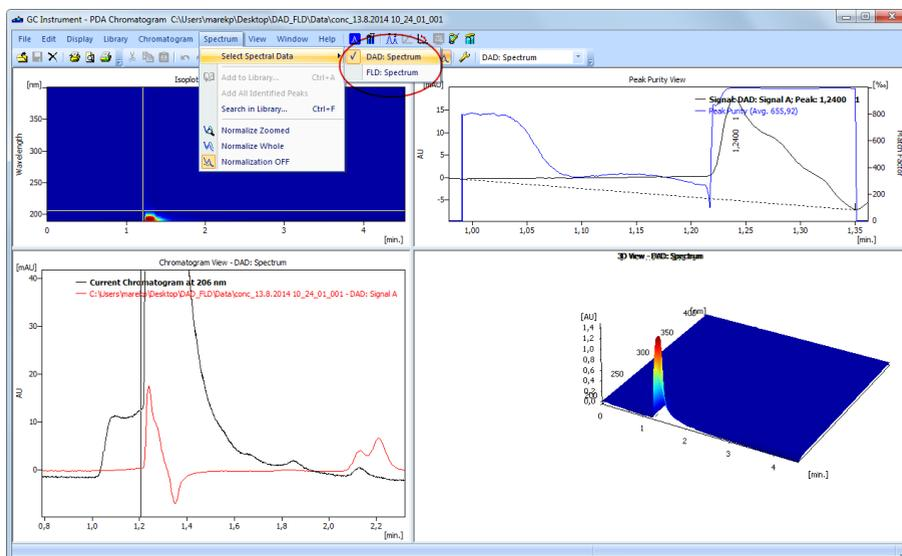

Fig 6: PDA Chromatogram window - Selecting Spectral Data
- Newly in the **PDA Chromatogram** window there is option to change between multiple spectral detectors. This option is accessible via the *Spectrum - Select Spectral Data* command from the menu. Choice of the detectors of course depends on the detectors used. **Fig 6** on pg 7. shows option to view Spectral data from different spectral detectors. Note this option serves only for displaying different spectra (DAD or FLD).